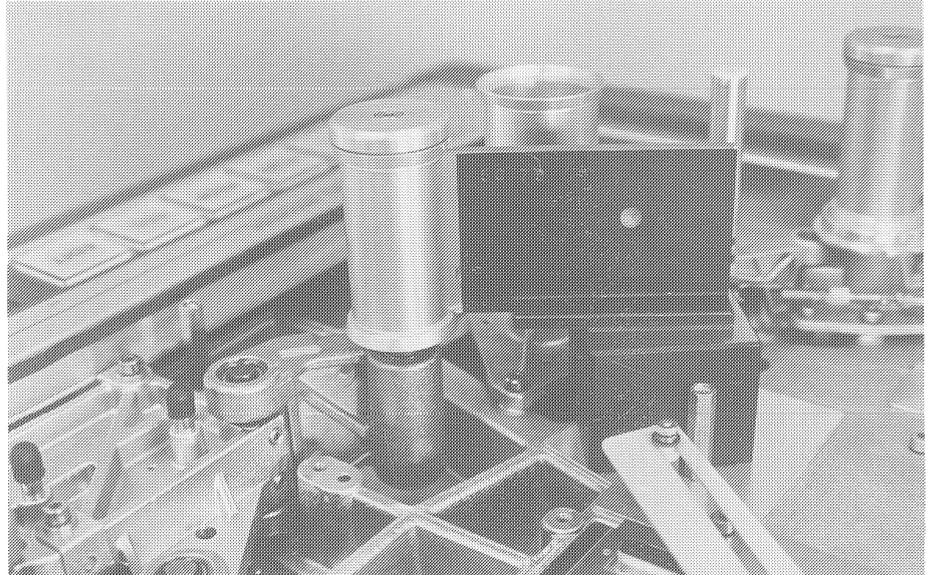

Fig. 45
Check the height of the rollers 5 and 14 with the aid of the gauge. The rollers are aligned correctly if they are in the upper part of the tolerance range, i.e. the gauge should touch the lower roller rim only lightly or not at all, and without interfering with its movement. See Figs. 45 and 46.
7. Check the roller height with the aid of the tape height gauge Fig. 45 and by observing the tape movement.